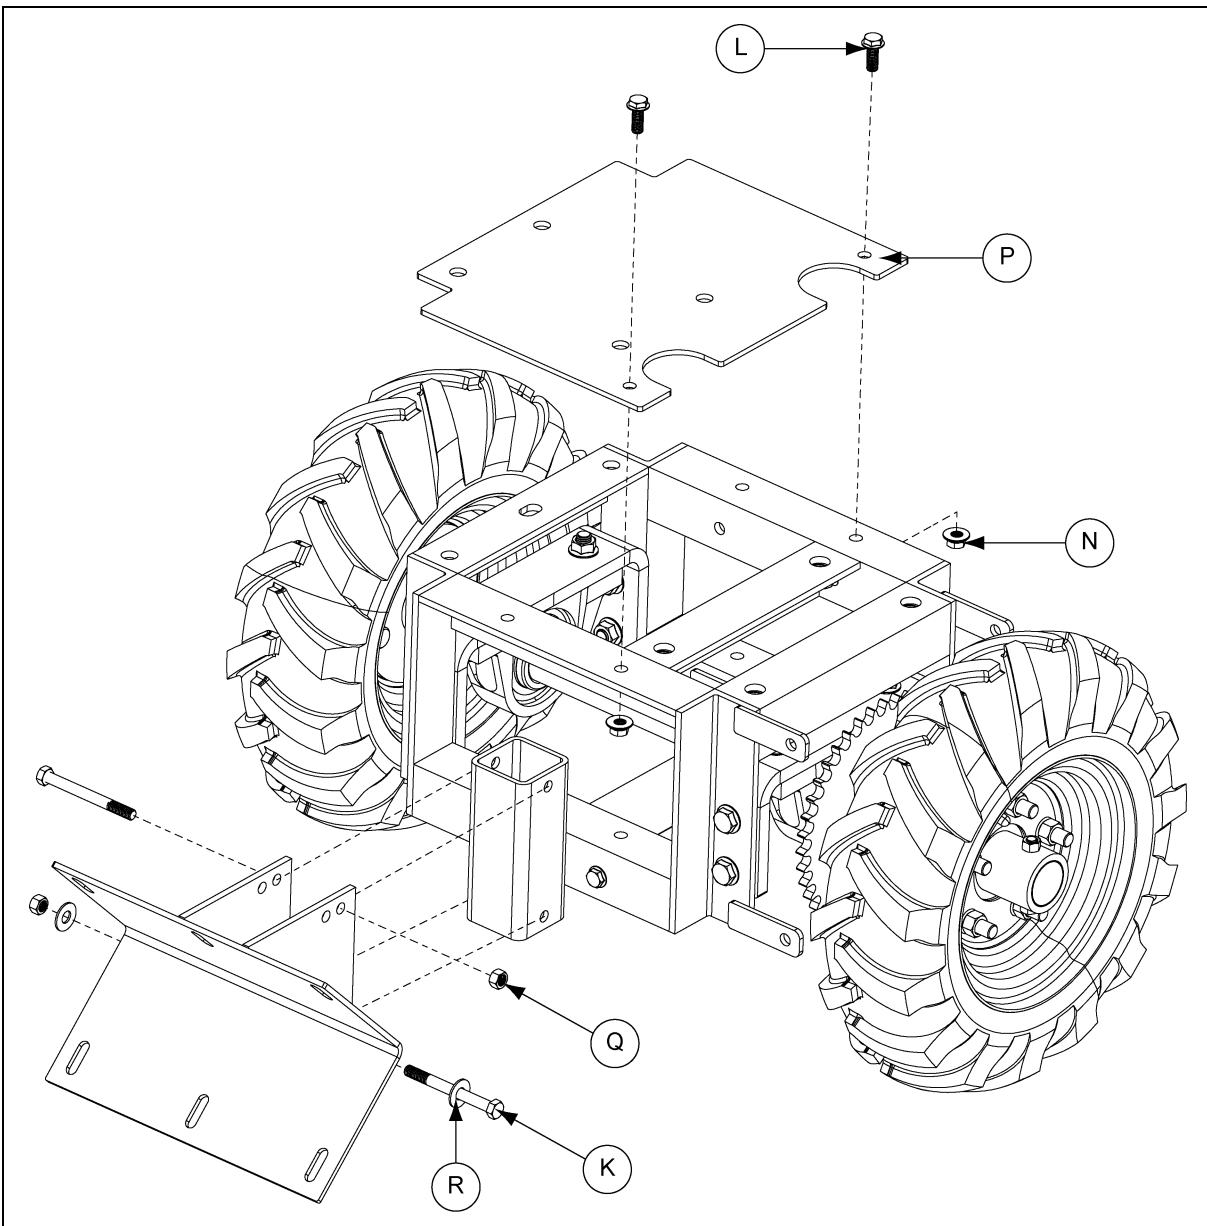

Figure 4D
9. Bolt the shield bracket to the front of the tractor frame using two (2) 3/8"-16 x 3-1/2" hex head cap screws (K), two (2) flat washers (R) (only on the bottom slot of the bracket) and hex nuts (Q).
10. Attach the weight plate (P) to the tractor frame using two (2) 3/8"-16 x 1" flange bolts (L) and serrated flange nuts (N). (See Figure 4D.)